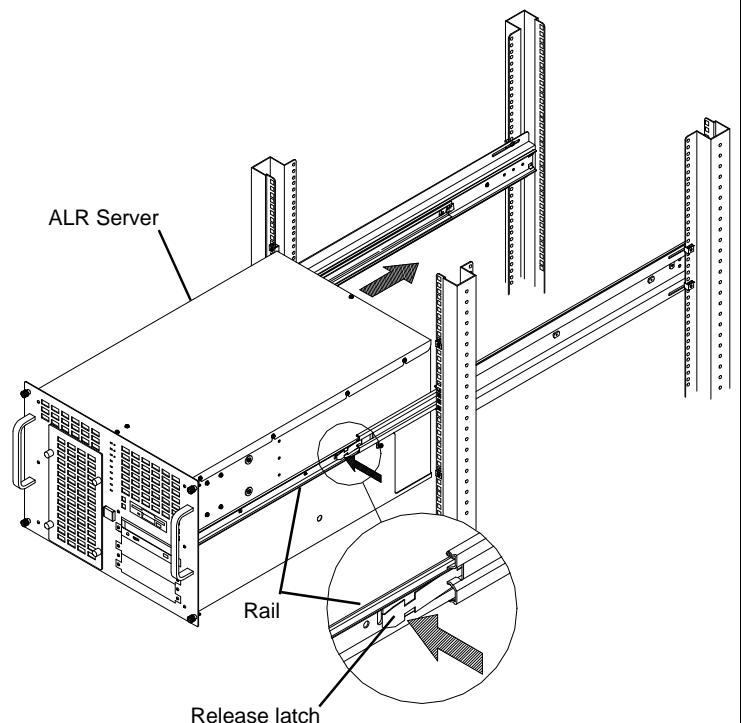

Figure 4
2. Depress the rail release latch on both sides of the server and slide the server all the way into the enclosure. See **Figure 4**.
See **Figure 4** for Mounting Bracket Locations for HP NetServer Lx.